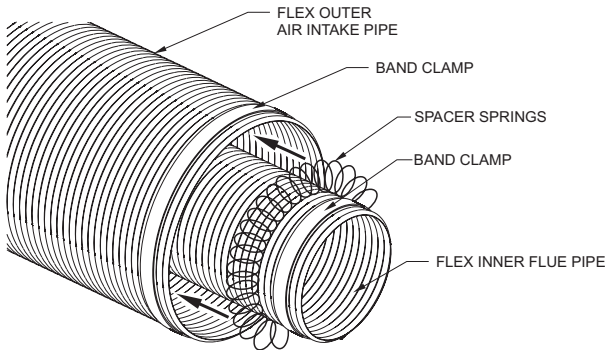

Figure 70
- Locate the inner flex vent (which has a pre-assembled flue collar connector) and attach the spacer springs by interlocking ends of the springs about 2 inches. The springs should be spaced evenly apart starting at 12 inches from the fireplace flue collar. **See Figure 70.**